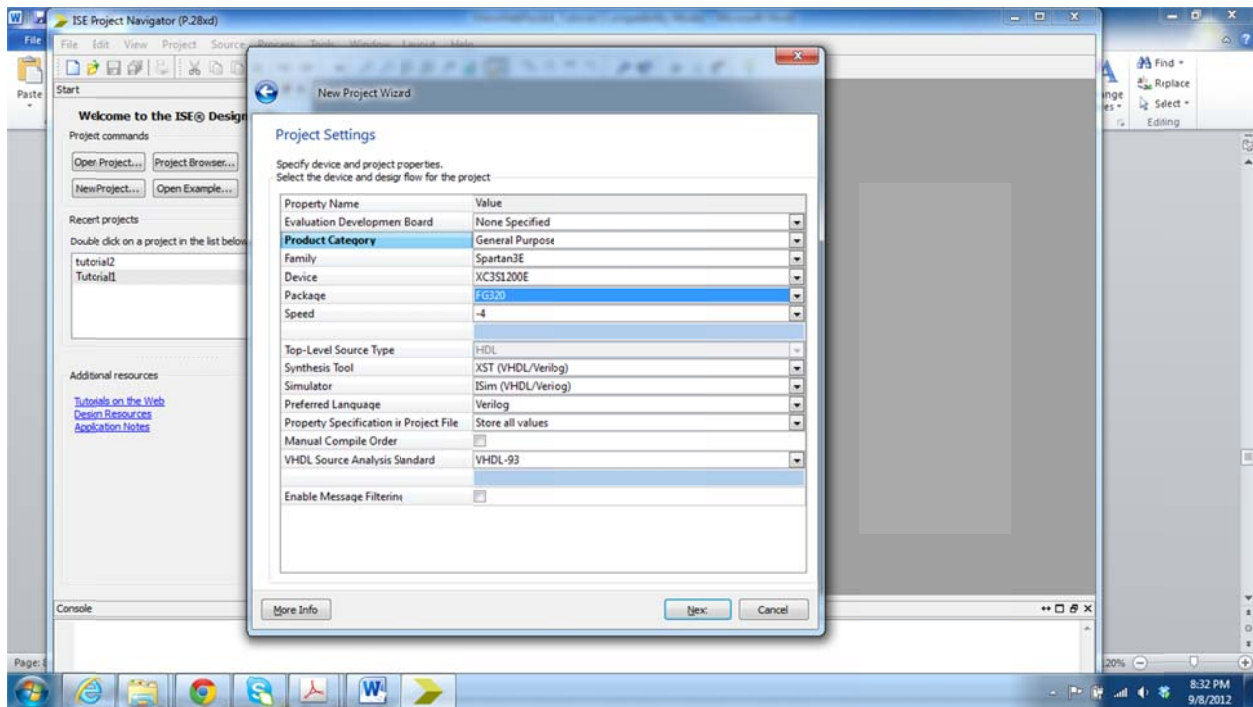

Figure 2B
2. You need to select the appropriate settings for your FPGA device. For the NEXYS 2 board, we have an XC3S1200E chip on the board. Thus we choose the options in Figure 2B. Then you click **finish**.